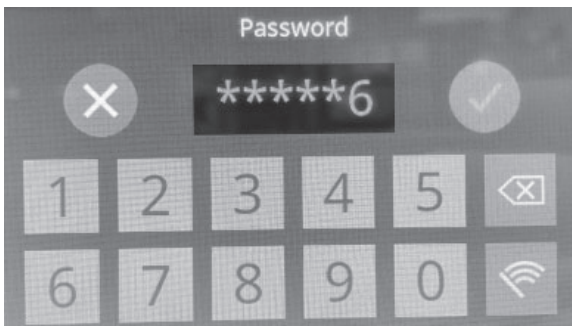
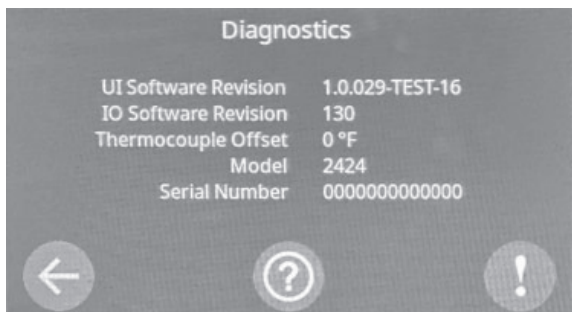

Figure 44
Figure 45
2. You will be prompted to enter a password (Figure 44) The password is 4-5-8-7-5-6. After entering the password, you will see the following screen (Figure 45).